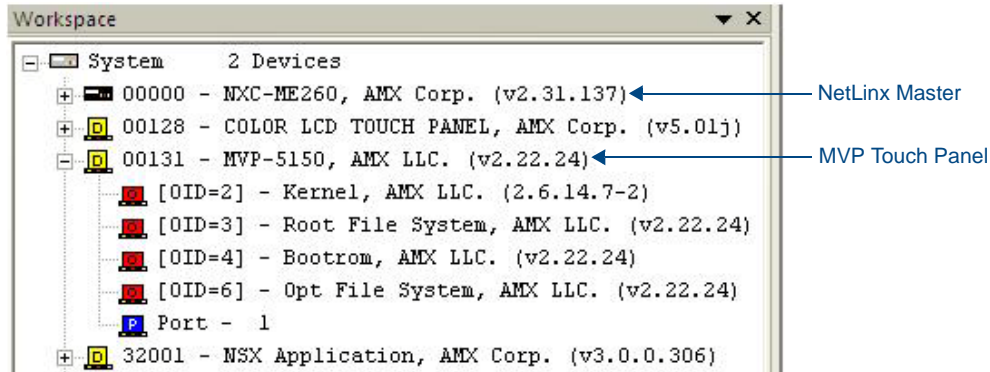

FIG. 2 NetLinx Studio - Online Tree tab of the Workspace Bar
2. Check that The panel is listed as a connected device under the NetLinx Master (FIG. 2).